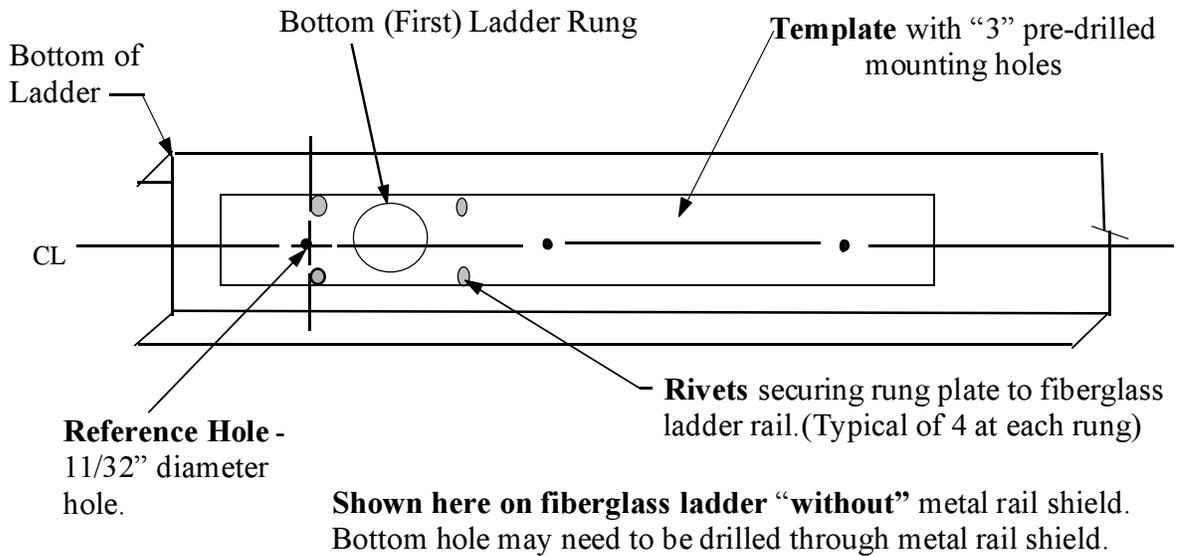

Figure 3-1B
3. Tape or clamp the TEMPLATE provided against outer ladder rail face along the centerline of rail (see **Figure 3-1B** for Werner and similar and **3-3B** for Louisville and similar ladders). Use the hole drilled in Step 2 as a guide for positioning the template in the correct location. Drill the two remaining 11/32” diameter holes through the ladder rail, using the template as a drill guide. **THE LOWER HOLE MAY NEED TO BE DRILLED THROUGH THE METAL FOOT ASSEMBLY PLATE.**